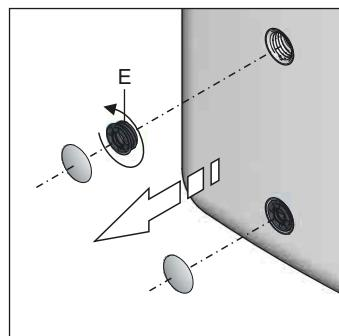

Fig. 6-2 Unscrew threaded piece
- **When using the KFE filling connection** (**accessory KFE BA, 16 52 15**): Remove the cover plate from the handle and unscrew the threaded piece (fig. 6-2, item E) from the storage tank container.